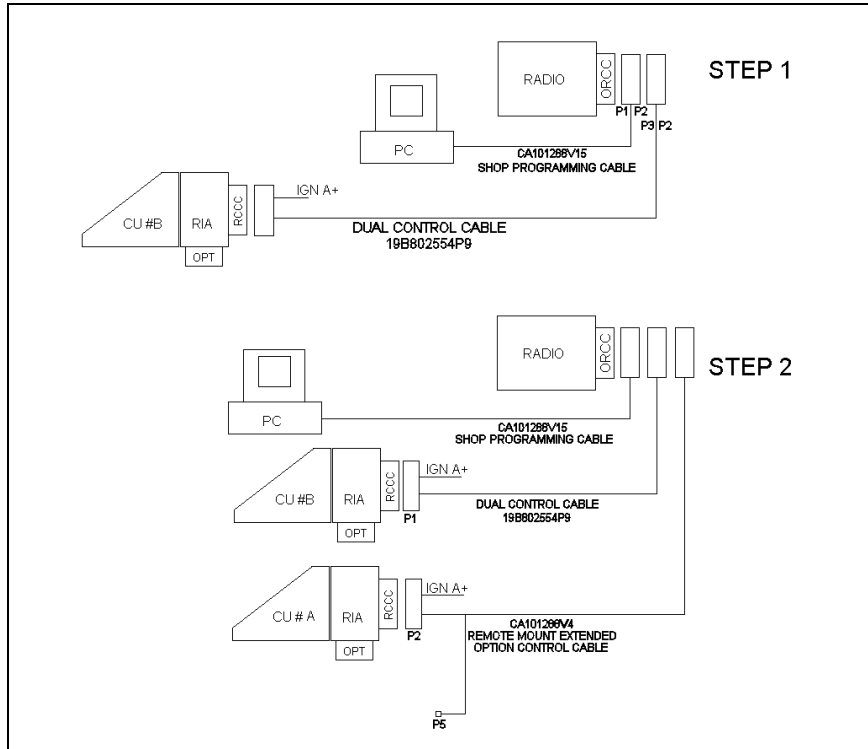

Figure 23 – M7100^{IP} Dual Control Unit PC Programming Configuration Remote Mount
1. Connect the M7100^{IP} Remote Mount Radio with ProGrammer Assembly, as shown in Figure 23, Step 1. Program the radio with the following control configurations:
2. Connect the Remote Mount Radio and the Auxiliary Control Unit together with ProGrammer, as shown in Figure 23, Step 2. Program this configuration with the following files: